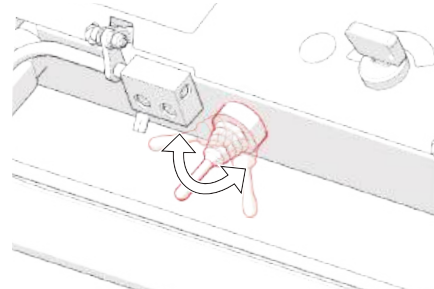

Fig. 14D - Using the drive switch to select drive type (i.e. nudge or latched)
5. Use the drive switch to activate the drive motor (Fig. 14D). Alternatively select 'Drive start/stop' on the display screen.